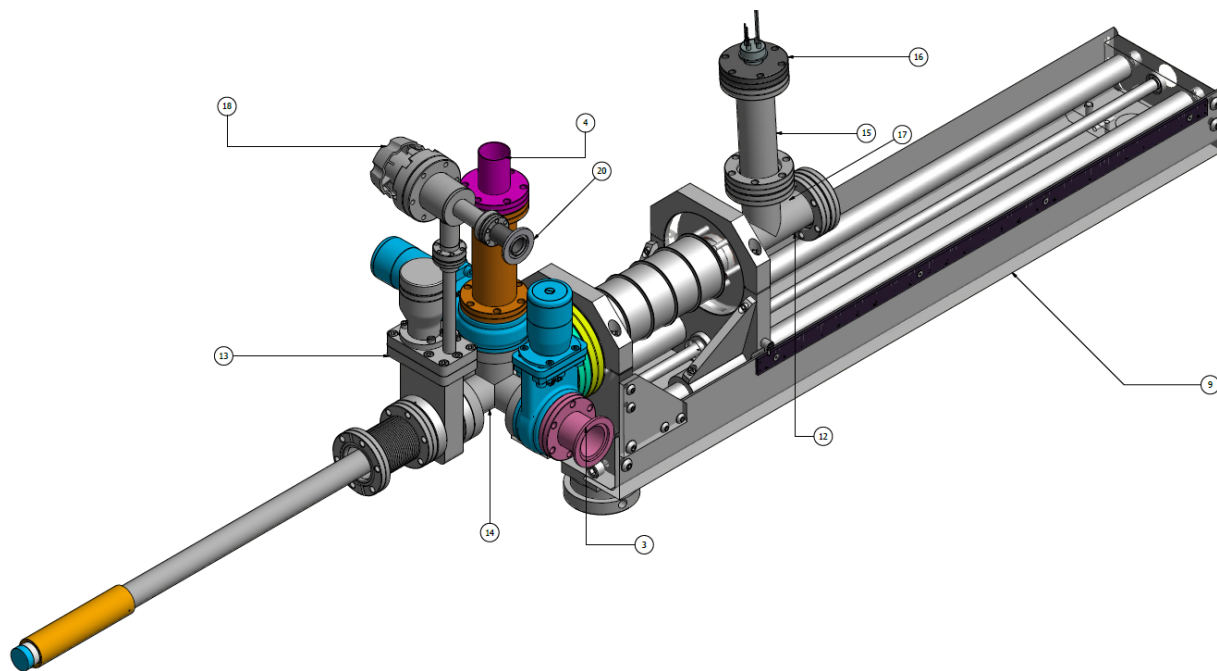

Figure 3 Sample Exposure Probe – as designed – note the formed bellows in front of the gate valve labeled “13” in the figure.
- 5.2. Align the SEP to the 8 in CF port on the AGB. This can be done because the SEP is mounted on height adjustable caster mounted hydraulic jacks (figure 3,4).